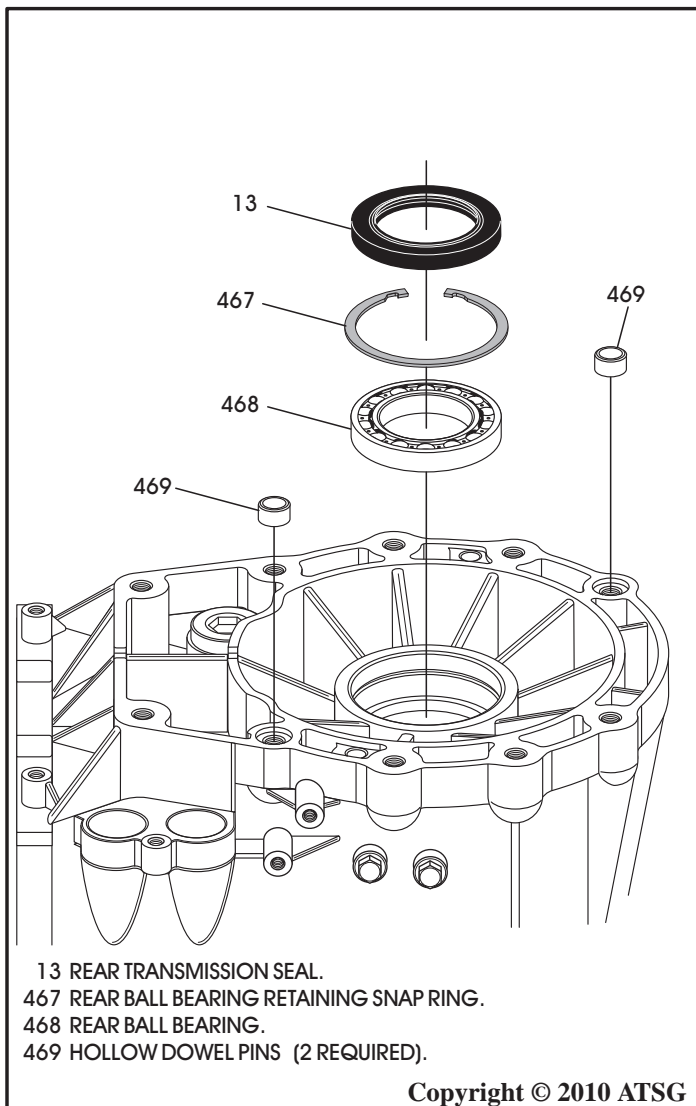

Figure 81
6. Install new rear ball bearing as necessary, as shown in Figure 81.
7. Install the rear ball bearing retaining snap ring into case groove, as shown in Figure 81.
8. Install new rear transmission seal, as shown in Figure 81, using the proper seal driver.